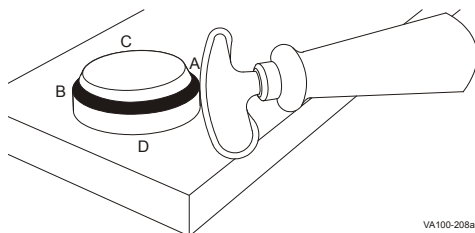
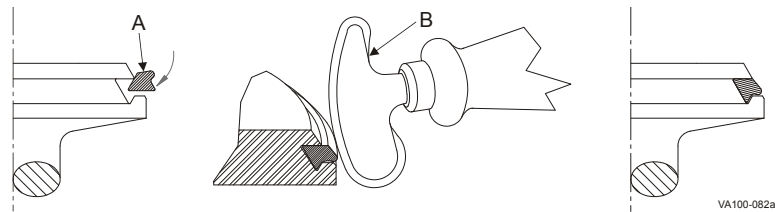

Figure 27 - Pressing Tri Ring Into Plug
Figure 26 - Installing New Tri Ring Seat
3. Lubricate the new Tri Ring (Figure 26, item A) with acceptable cleansing solution or lubricant.
5. Start the Tri Ring as shown in Figure 26.
6. Using the installation tool, part number 102797+ (Figure 26, item B), press the Tri Ring into the plug at locations A, B, C, and D (Figure 27). If this tool is not available, a dull, flat tool can be used. DO NOT use a knife or any other sharp item that will tear or cut the Tri Ring.
8. When properly installed, the Tri Ring seat lip will protrude slightly from the seat edge as shown in Figure 26.